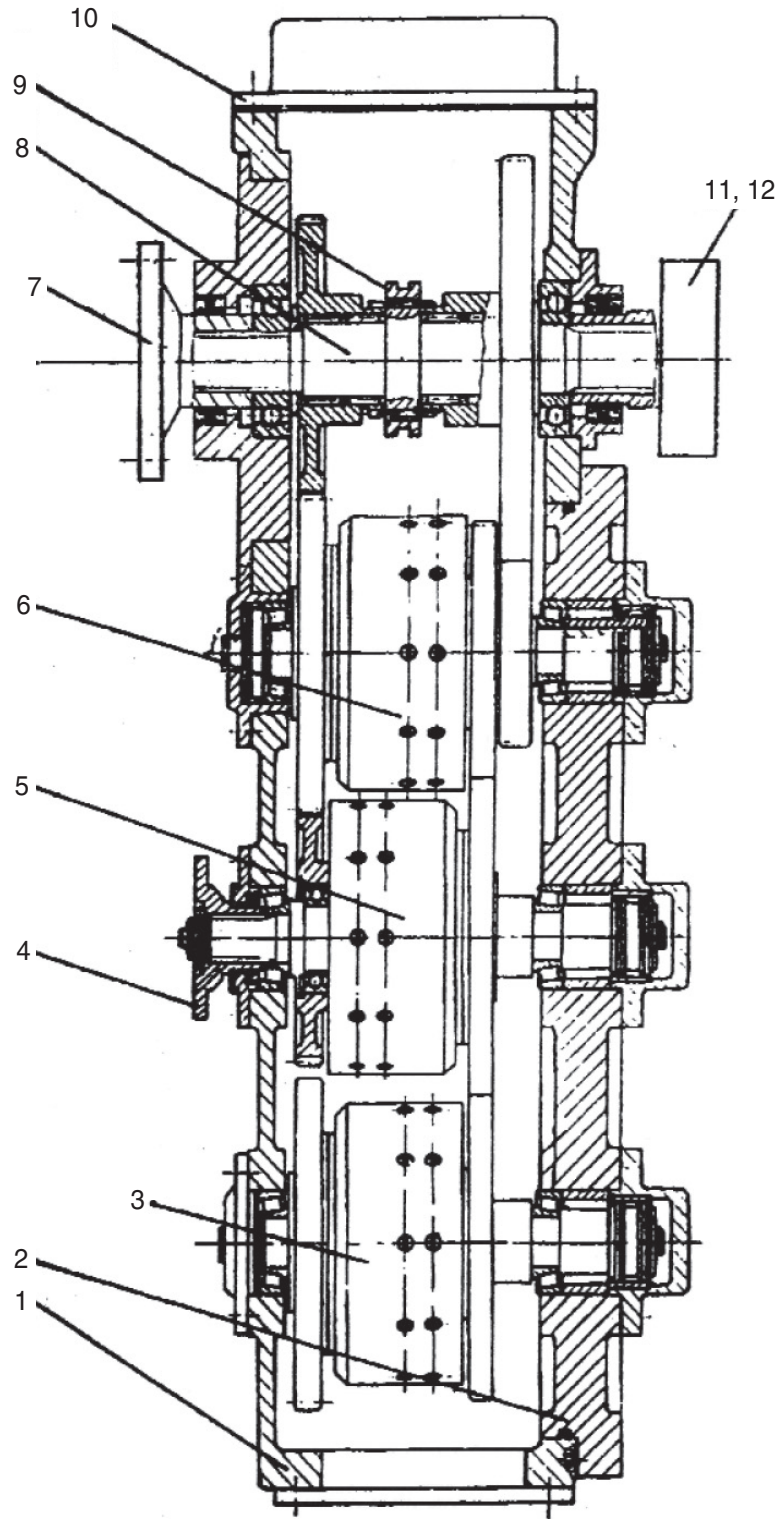
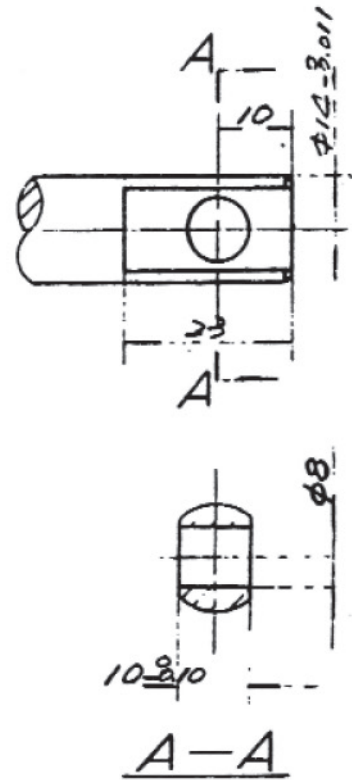

Figure 1 Structure of transmission
Figure 6
As illustrated in the page 2-3, figure 1, the transmission consists of transmission housing (1), large end cover (2), reverse shaft assembly (3), input shaft assembly (5), countershaft assembly (6), output shaft (8), range gear sleeve (9) and shoe brake (12).
For positions of shift rod of range gear, see attached figure 1. There are three gears. The outside is high gear, the inside low gear, stroke between two adjacent gears is 15 mm. Connection sizes of handle are illustrated in figure 6.